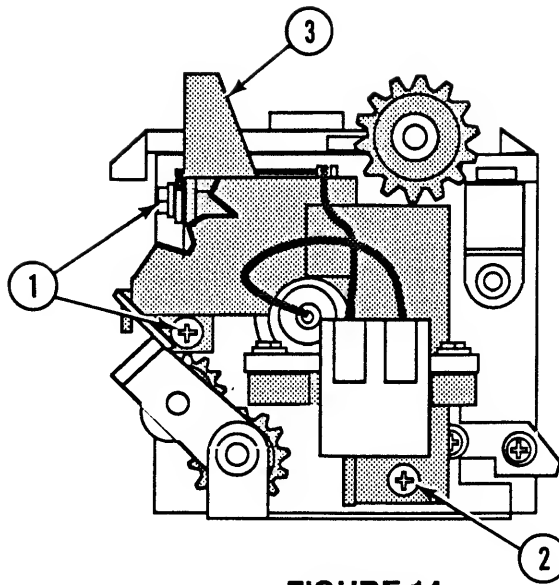

FIGURE 14
11. Remove the three Phillips screws (Figure 14, #1 and #2) that secure the right terminal mount (Figure 14, #3) to the fuser assembly. Remove the terminal mount.